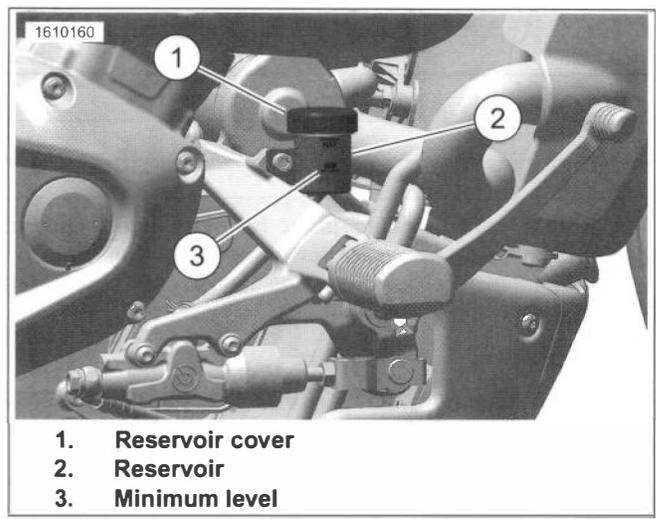

Figure 2-14. Rear Master Cylinder Reservoir
3. **Rear master cylinder reservoir:** See Figure 2-14.
- a. Remove cover (1).
- b. Check fluid level is above minimum mark (3) on side of reservoir (2).